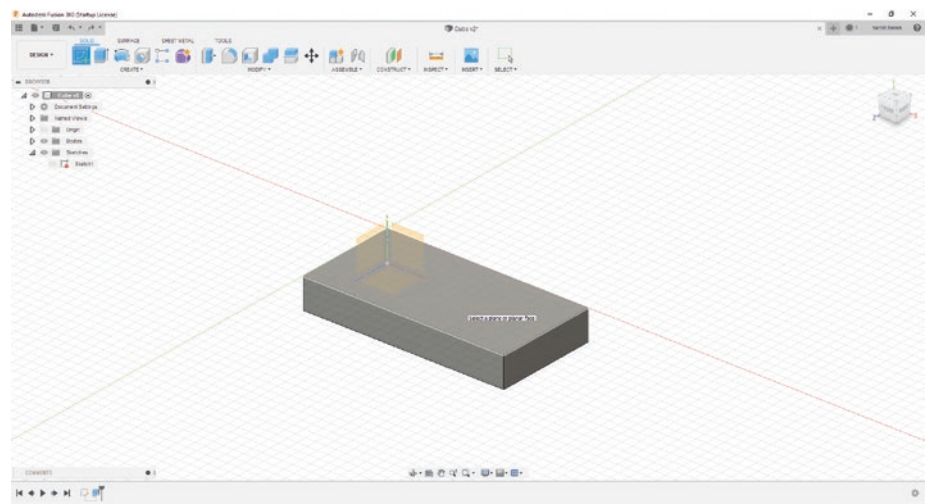

Figure 3-59. *Select the top of the 3D object*
10. Select the top of the 3D object, and this will put you into sketch mode. See Figure 3-59.